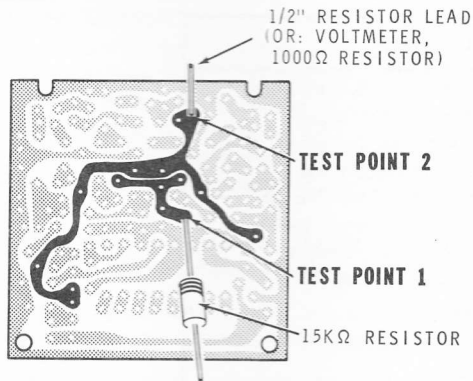

Figure 5
- ( ) Temporarily solder the 1/2" cutoff resistor lead to Test Point 2 on the foil of the receiver circuit board. (See Figure 5.) [VOLTMETER: Connect one lead of a 1000  $\Omega$ , 1/4-watt (brown-black-red) resistor (not supplied) to Test Point 2.]